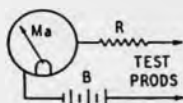

Fig. 1.
The amateur familiar with his home-built receiver needs only a continuity rig (ohmmeter), screwdriver, pliers and soldering iron to service it. Making the statement more general: The radio man familiar with fundamental radio circuits and their variations can service any radio receiver with the same equipment. True, he can work faster with an analyzer, but he simply cannot do without suitable ohmmeters. The ohmmeter is nothing more than a voltmeter and battery; or milliammeter, resistor and battery, as in Figure 1. It is the simplest, as well as the most useful, of test equipment in any shack or shop. Calibration is never a matter of difficulty, a paper and pencil is all that is required.
The circuit of the simplest ohmmeter is shown in Figure 1. It, as with all electrical devices, obeys ohm's law in spite of its operator. Unknown resistors are tested in series with the circuit.
1. The center of the ohm scale will show a resistance equal to the value of the resistor R of Figure 1. The useful range of the ohmmeter will be from a resistance a tenth as large as R to a resistance ten times as large as R .